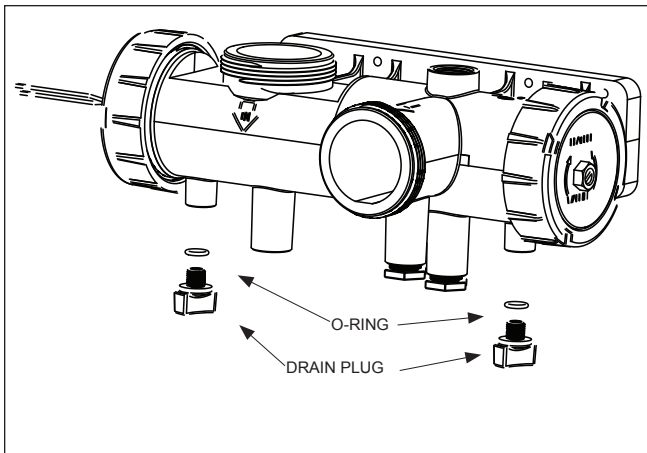

Figure 33. Draining the Heater
6. Locate the bypass adjustment screw on the right-hand side of the header. (See Figure 33.) Loosen the nut so that the screw can be adjusted. A slight water leak past the nut may be expected. Turn the screw counterclockwise to decrease the temperature rise, and clockwise to increase the temperature rise as needed to achieve the ranges in Table 7. After the adjustment, tighten the nut so that no leaks occur.
4. Remove the drain plugs from both the inlet/outlet header and the return header (see Figure 33 and Sections 11.3 and 11.4, Exploded Views), and completely drain the heater before the first frost.